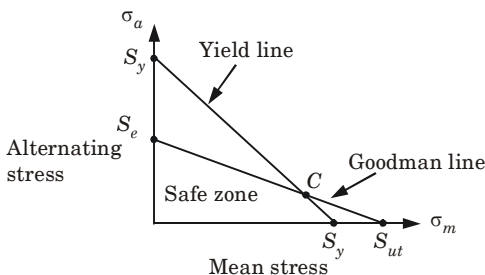

Fig. 2.13.1.
7. (Fig. 2.13.1) shows effect of mean stress on fatigue life using modified Goodman diagram.